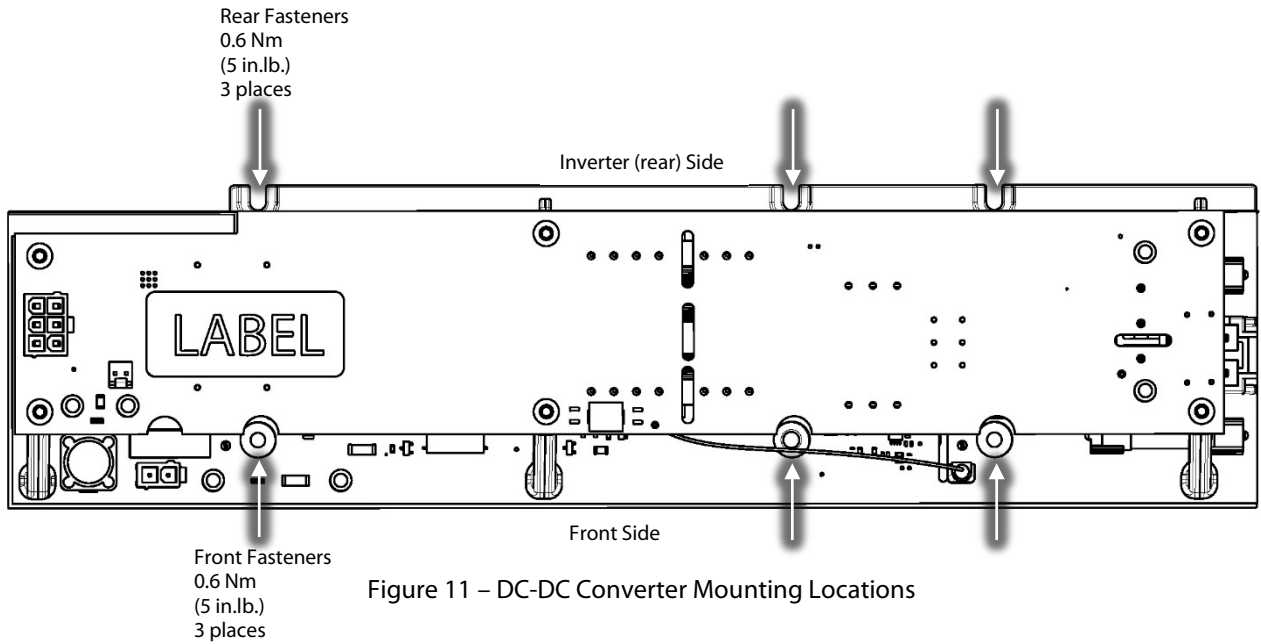

Figure 11 – DC-DC Converter Mounting Locations
4. Install the new front fasteners that secure the DC-DC Converter to the Inverter Heat Sink Plate. Torque all fasteners to 0.5 Nm (4 in.lb.). Refer to Figure 11 (DC-DC Converter Mounting Locations).